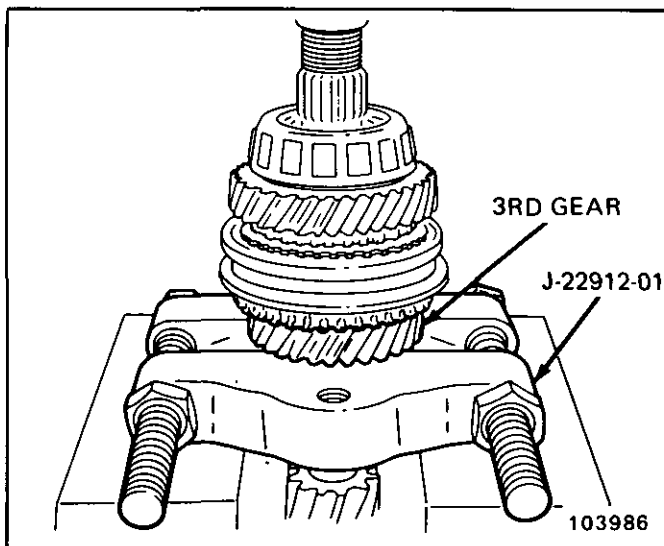

Figure 27 Rear Input Bearing
2. Pull out the rear bearing 4th gear, 3rd/4th synchronizer assembly and 3rd gear all together, using J-22912-01 and a press (Figure 27).